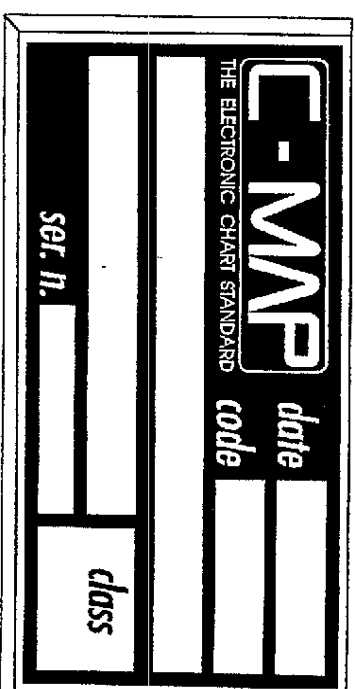

Fig. 2.4 - G-GEARD
- Hold the G-GEARD by the short smoothed side so that you can see the C-MAP label (see Fig. 2.4).